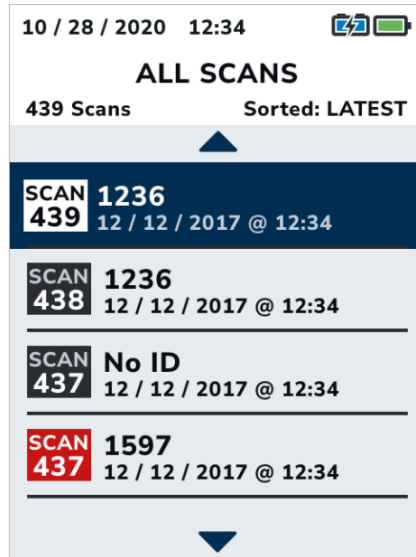

Figure 3-11: List of all scans
3. In the list of all the scans select the required scan number of the measurement and click on enter button to view a specific measurement, as shown in Figure 3-11.